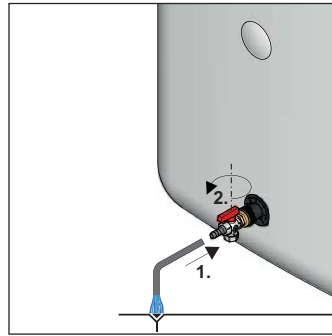
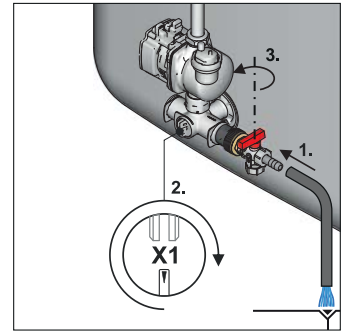

Fig. 6-1 Draining process **without** $p=0$ solar system
Fig. 6-2 Draining process **with** $p=0$ solar system
- Connect the drain hose to the **KFE filling connection** (fig. 6-1 / fig. 6-2) and to a waste water drainage point which is at least at ground level.
Adjust the valve insert on the connecting angle so that the path to the drain hose is opened (fig. 6-2).
- Open the **KFE filling connection** and drain the water out of the storage tank (fig. 6-1 / fig. 6-2).